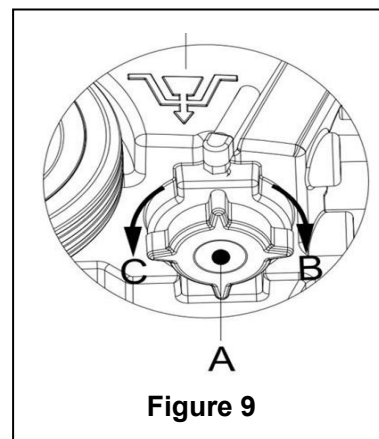

Figure 9
7. As shown in **Figure 9**, turn open the lid of Solution tank (A) anticlockwise along direction C, and drain Solution tank completely. Use pure water to cleanse the inside of Solution tank. When work is completed, turn tight the lid of Solution tank (A) clockwise in direction B.